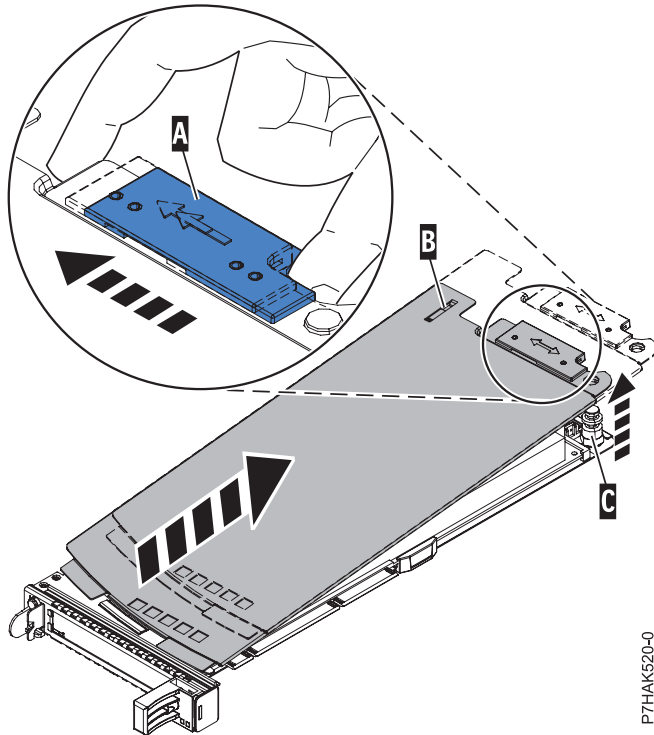

Figure 5. Removing the PCIe adapter cassette cover
- a. Slide the cover latch (A) to disengage it from the pivot pin (C) as shown in Figure 5 on page 6.
- b. Lift the cover (B) off of the pivot pin (C).